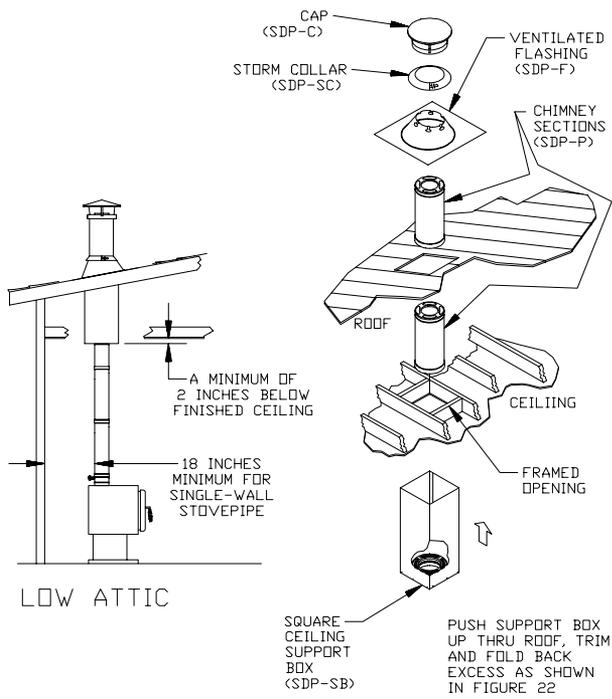

Fig 20
2. Cut Openings: Cut a roof opening directly above the appliances' flue outlet collar, just as in a Ceiling-Supported Installation (Steps 1 thru 5). If a separate ceiling and roof exists, as shown in Figure 20, (Low Attic), first cut and frame a ceiling opening as described in Ceiling-Supported Installations (Step 2). Refer to Table 2 for clearance and framing specifications. If it is